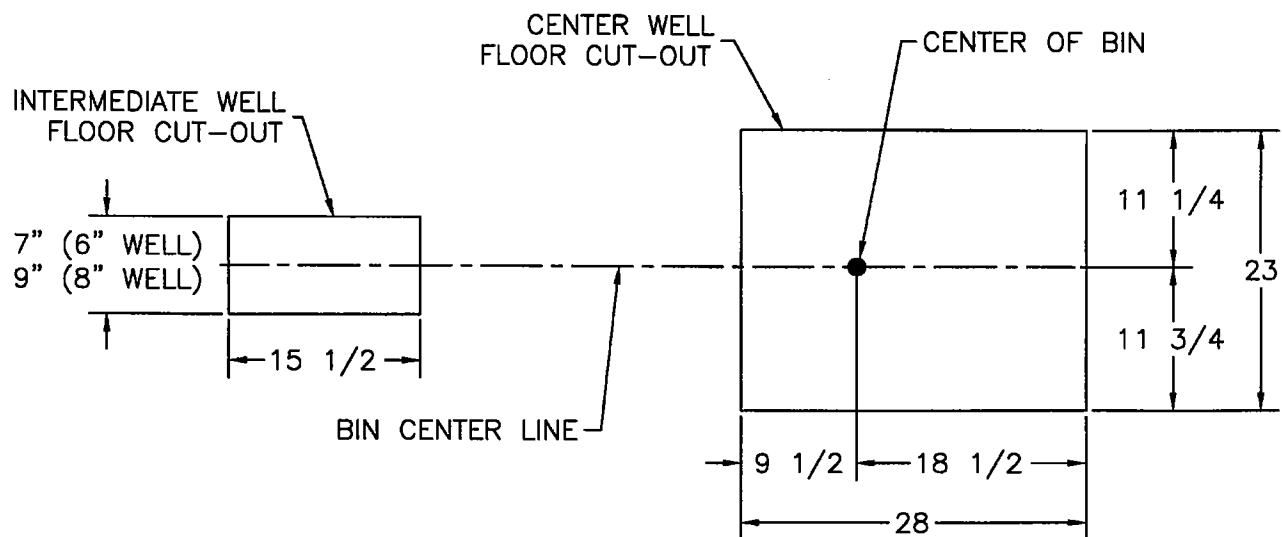

FIG. 9
1. Locate the center of the bin and make a cut-out in the bin floor for the center well. See Fig. 9 for cut-out size and location of 6" & 8" wells. Locate the vertical shaft between the gearboxes in the center of the bin. Place suitable supports under the center well to hold it in position.
4. Cut openings in the bin floor for the intermediate wells. (See Fig. 9 on page 13.) The number of wells depends on bin size. The distances between the bin wall and intermediate wells and the center well should be equal. (See chart and Fig. 12 below.)